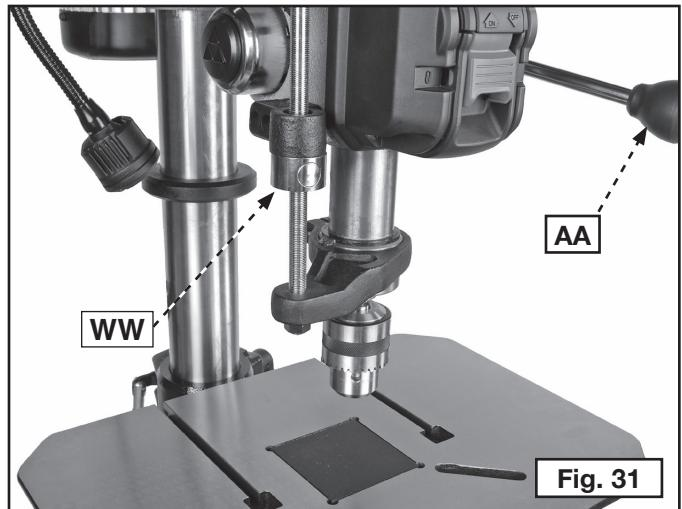

Fig. 31
Raise and lower the spindle with the pinion handles (AA) Fig. 31. You can lock the quill at any point in its travel by positioning locking nut (WW) against the stop. To position nut, push the button in and slide it along the threaded rod.